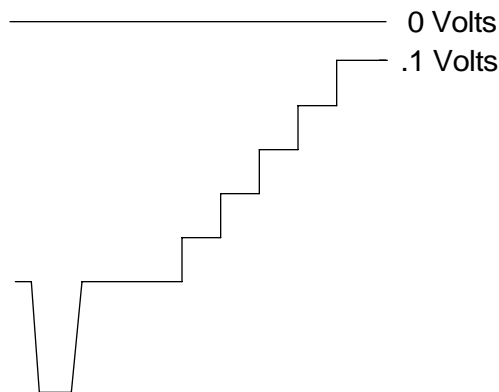

Figure 7-1. Waveform at TP2.
2. Set the controls R20, the white clip; R24, the sync clip; and R45, the sync stretch cut-in, to their fully counter-clockwise (CCW) position. Set R48, the sync magnitude, fully clockwise (CW).
7. Monitor TP2 with an oscilloscope. Adjust pot R41, manual offset, for a blanking level of -0.8 VDC. The waveform in Figure 7-1 should be observed at this point.
Note: The waveform in Figure 7-1 represents the theoretical level for proper modulation depth. Step 9 below describes how to set the modulation depth through the use of a television demodulator or a zero-spanned spectrum analyzer tuned to the visual IF frequency.